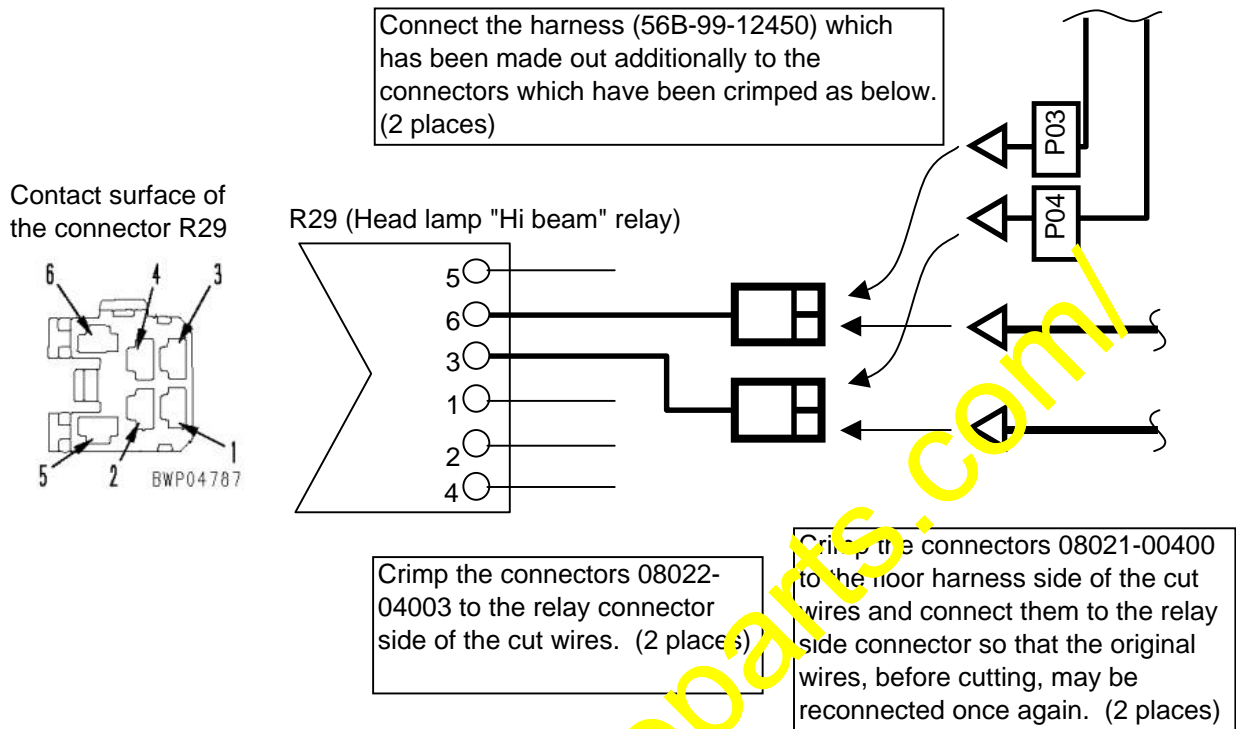

Fig. 38
- Process 4) Crimp the connectors to the cut wires coming from the relay connector R29 and connect them with the connectors of the harness which has been made out additionally as shown in Fig. 38.